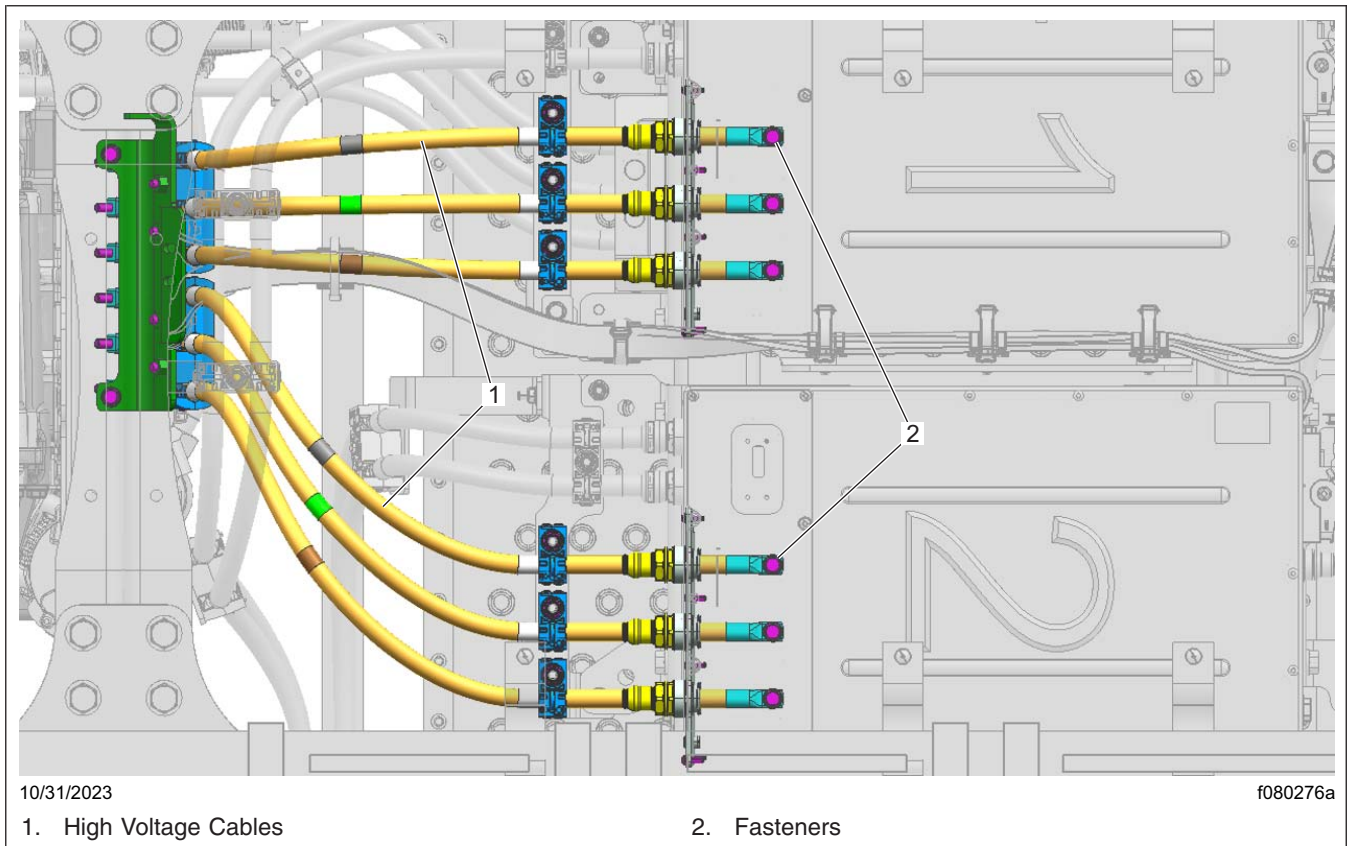

Fig. 7, High Voltage Cables Connecting Inverter and Forward Rear Axle
15. Remove the high voltage cable lug fasteners located inside the inverters 1 and 2. See Fig. 7.